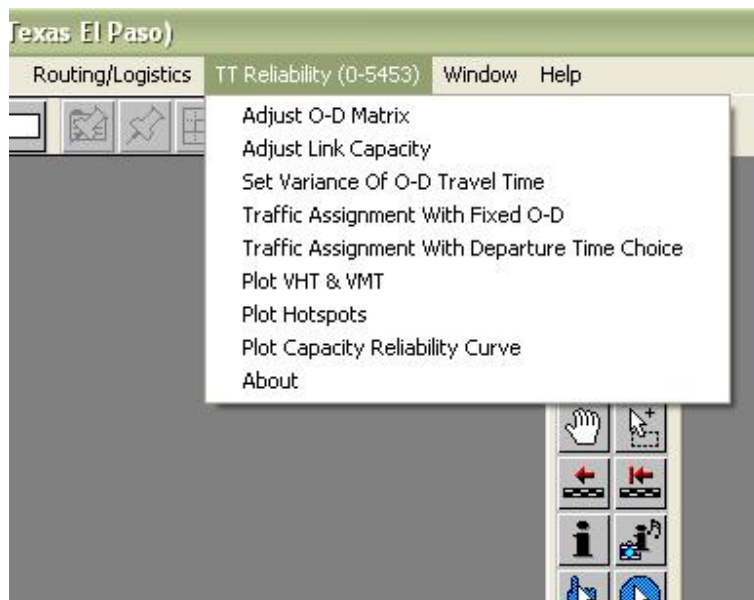

Figure 1: Travel Time Reliability Menu - After Installation.
8. Highlight the *Travel Time Reliability* in the scroll list and click the *OK* button. TransCAD now closes the *Add-Ins* dialog box and creates a menu *TTReliability (0-5453)* on the main menu bar as shown in Fig. 1.